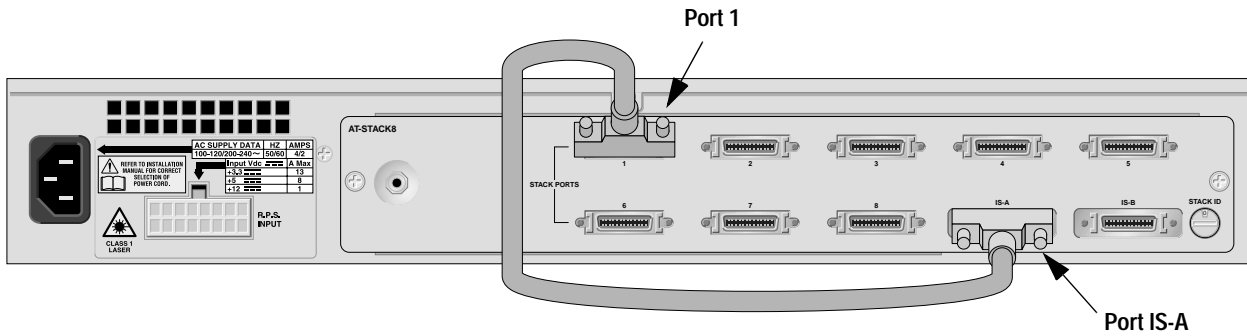

Figure 3-12 Cabling the Master Switch with an AT-CABLE-4 Cable
10. Connect one end of an AT-CABLE-4 cable to Port 1 on the AT-Stack8 module and the other end to Port IS-A on the master switch. Refer to Figure 3-12.